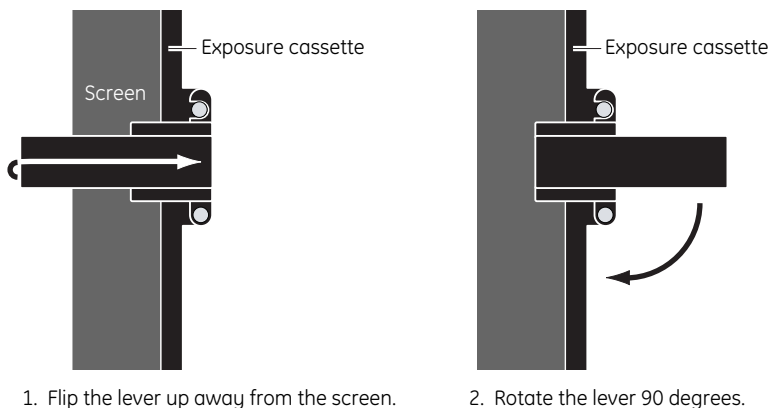

Fig 6-2. Opening the exposure cassette for mounted screens.
- **For mounted screens**—Flip the lever or levers on the cassette (fig 6-2), and then rotate the clamp or clamps clockwise so that they no longer cover the screen.